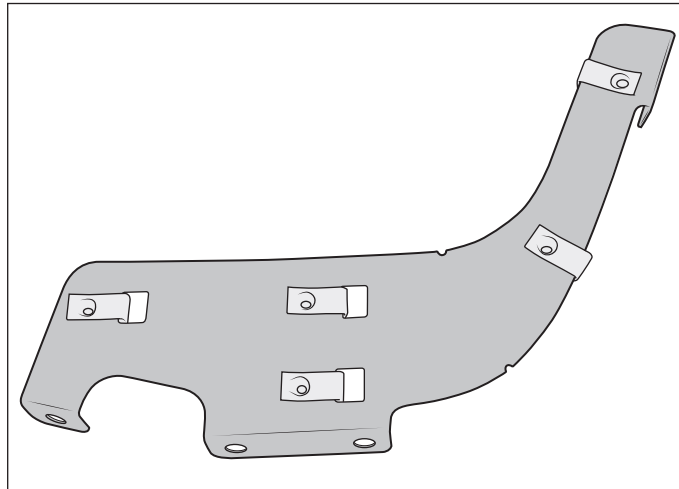

Figure 14
4. Install five U-nuts onto the bracket as shown (fig. 14)